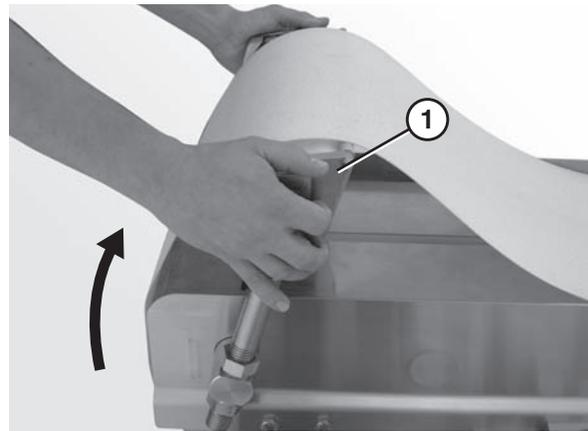

Figure 44
1. Place the idler tail (Figure 44, item 1) in the up position.